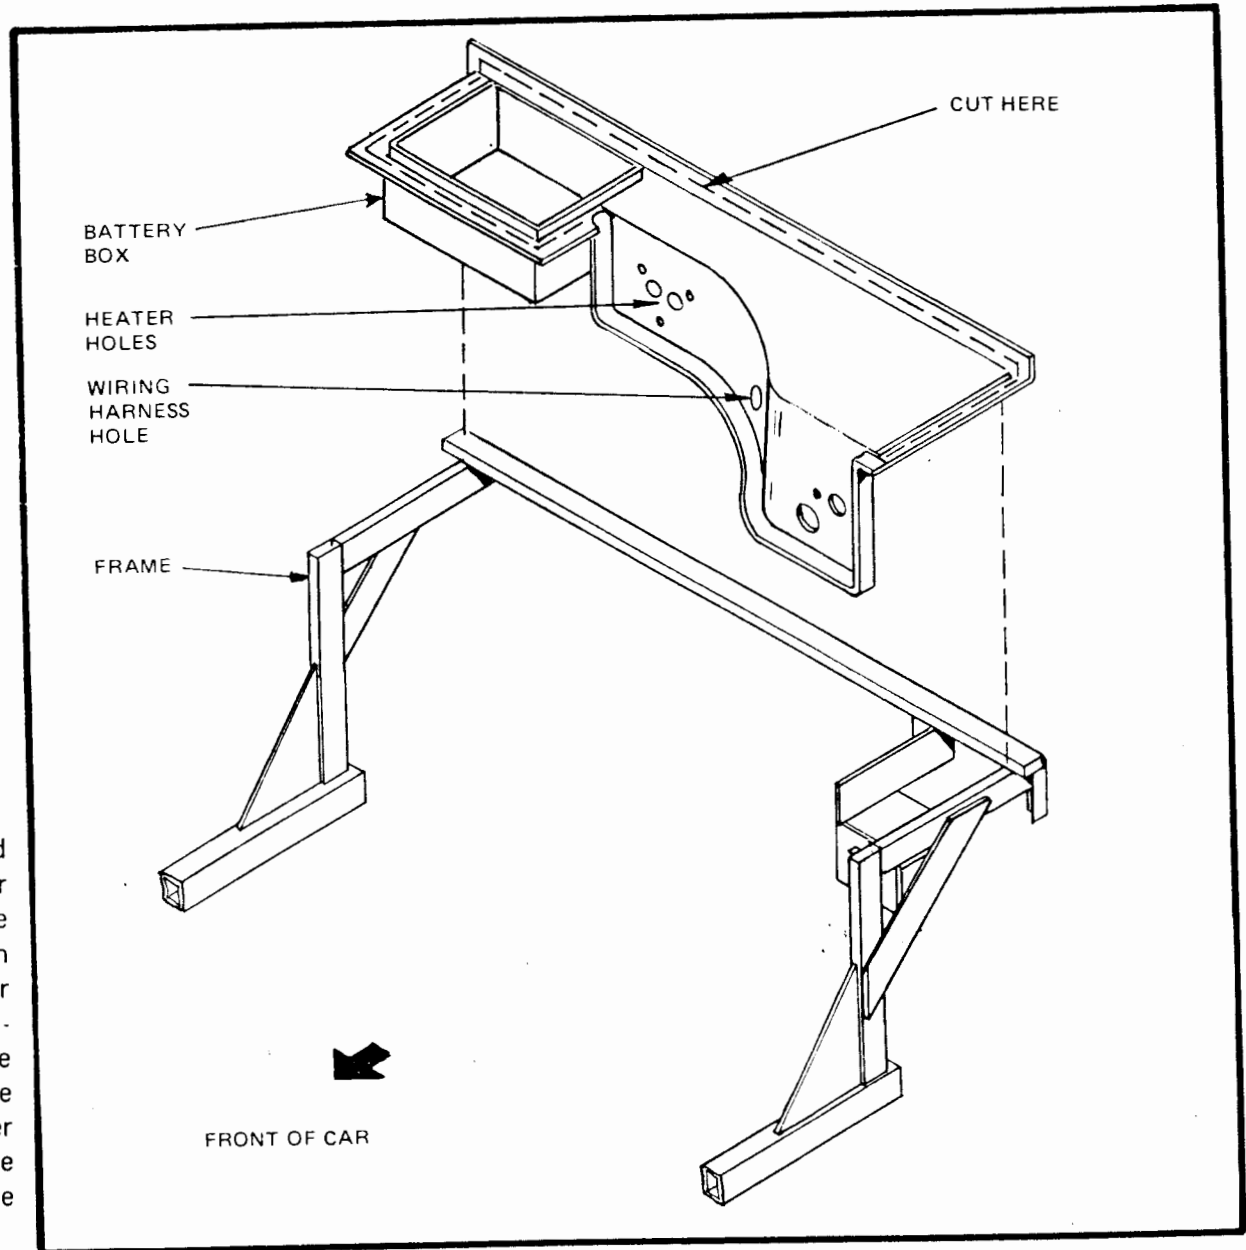

Figure 18
- Drill 2 holes, 7/32", through the battery box and into the frame. Secure with 1/4 x 3/4" hex washer head self-tapping screws. (Figure 18)